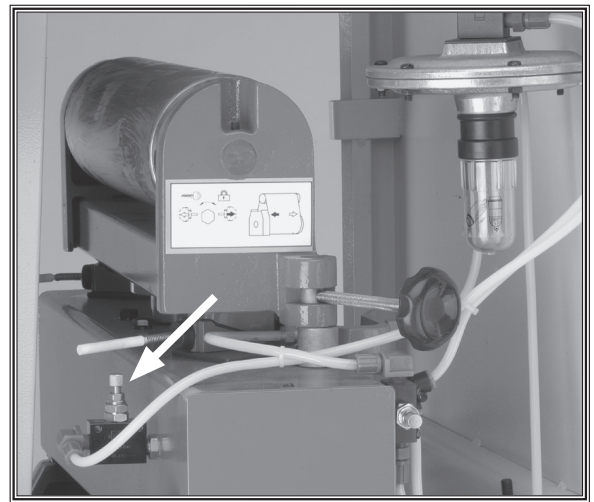

Figure 19. Jet adjustment knob.
4. Loosen the jam nut and turn the jet adjustment knob (**Figure 19**) clockwise until the air stream is reduced to a minimum.